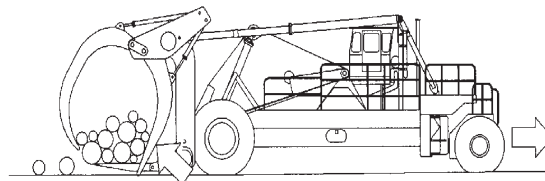

Figure 5-12
2. While backing the machine, slowly open the holddown arms and gradually push the load forward with the kickoff arms. This way, the logs can be dropped one at a time rather than all at once (See Figure 5-12).